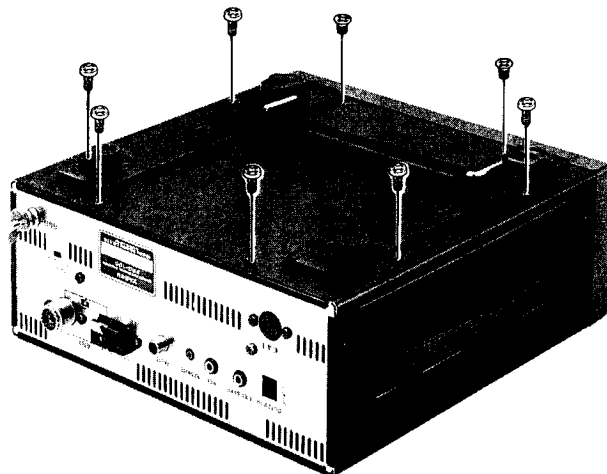

Fig. 7 Bottom Cover Removal
- Place the radio on stable work surface with the front facing you, and remove the eight screws affixing the bottom cover (Figure 7).